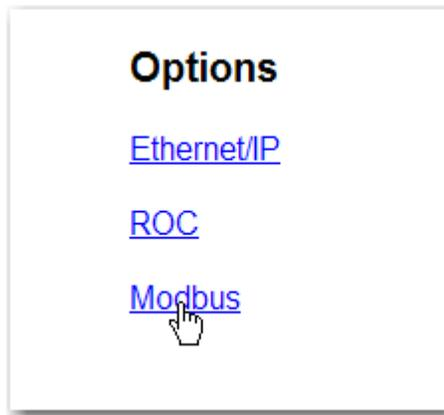

FIG. 226 CONFIGURATION - OPTIONS/SELECTING MODBUS
Step 3. Click on Options. The Options page appears. (See Fig. 226)